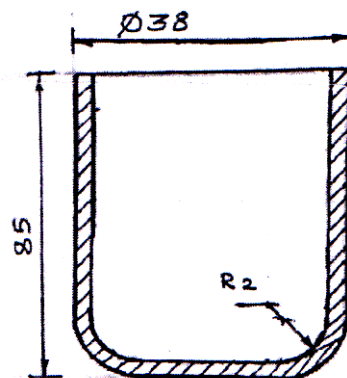

Figure No.1. All dimensions in mm.
- Q1) a) To design drawing die for a component as shown in figure no.1, calculate following values for a sheet of thickness 2 mm and yield strength 300 MPa. i) Blank size, ii) Percentage reduction, iii) Number of draws required, iv) Cup diameter and height in each draw, v) Die and punch dimensions in each draws, vi) Press capacity required in each draw. [12]